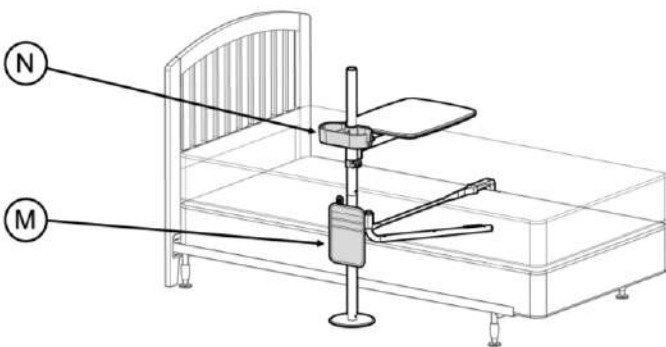

FIGURE 10A
10. Accessories: If included, place **M** and **N** on product as shown in *FIGURE 10A*.